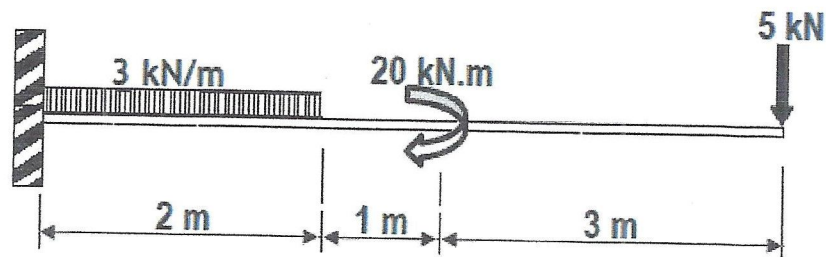

Figure Q1B
- b) Using the method of sections, write the equations and plot the shear force and bending moment diagrams for the cantilever beam shown in **Figure Q1B**. Indicate the salient values. (8 Marks)